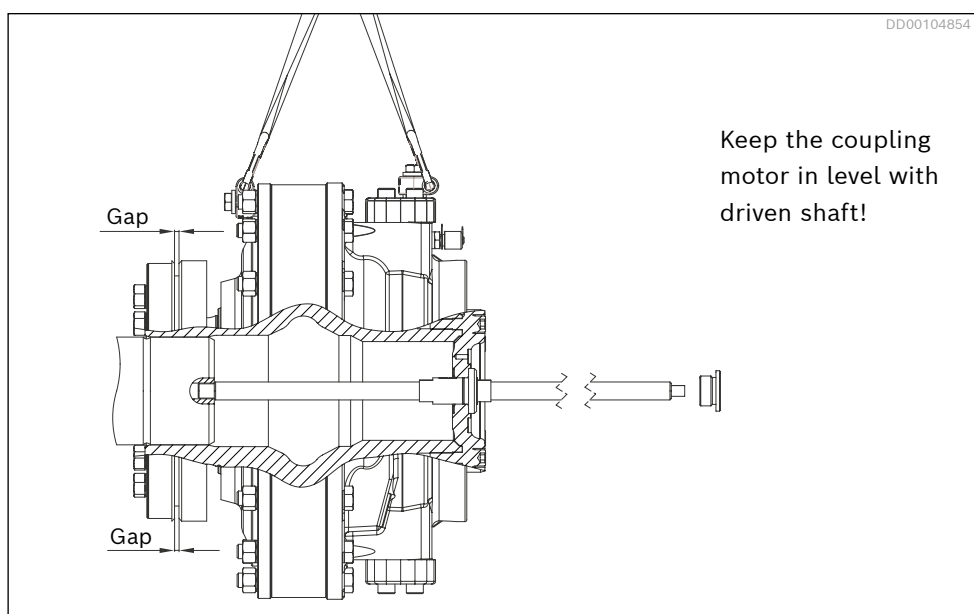

Fig. 38: Gap between the clamping rings
2. In order to avoid misalignment of the two clamping rings during the tightening of the screws, the gap between the rings must be measured in several places during the process, see *Fig. 38*. The difference between the measured gaps must never vary more than 1 mm (0,04") during any stage of the tightening process.